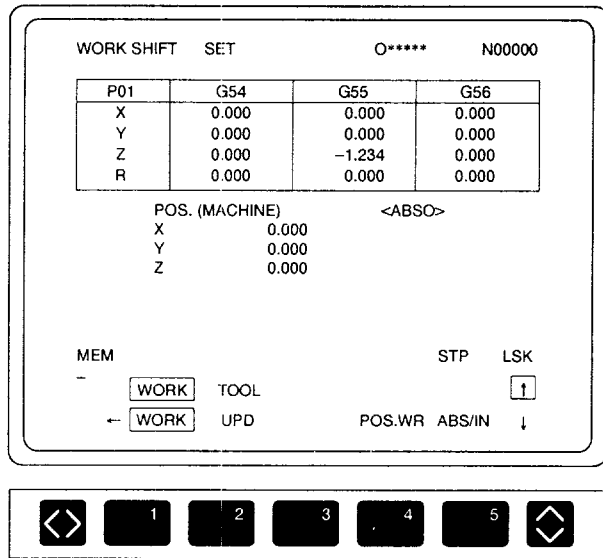

Fig. 5.1 P Number Entry Screen
- ③ Move the cursor to the axis and the workpiece coordinate system for which the offset amount should be written. For the axis selection, use the cursor up/down keys and for the selection of G codes, use the cursor right/left keys.
- ④ Enter a numerical value (for example, “-1.234”) and press the [WR] key. The screen as shown in Fig. 5.1 is displayed.